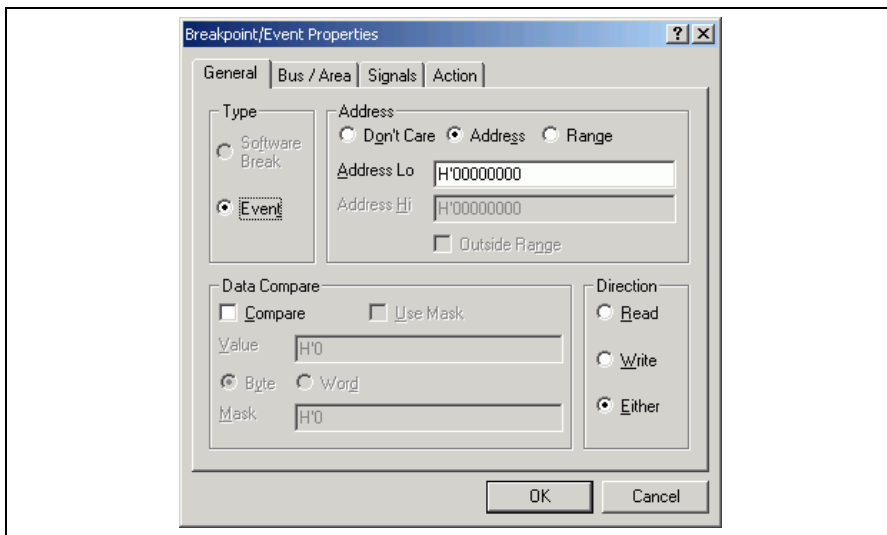

Figure 6.42 [Breakpoint/Event Properties] Dialog Box
- (2) Register the address range for trace acquisition as an event condition. Click the [Add...] button in the [Trace Events] group box on the [General] page to display the [Breakpoint/Event Properties] dialog box (see figure 6.42, [Breakpoint/Event Properties] dialog box).
- (3) Click the [Range] radio button in the [Address] group box on the [General] page of the [Breakpoint/Event Properties] dialog box. Use the [Locals] window to refer to the address on the line where variable `a`, which is defined within the `tutorial` function, is allocated (`H'00FFFEF8` in this example) and enter this address in the [Address Lo] edit box. Then enter an address, which is `H'27` added to that entered in the [Address Lo] edit box (`H'00FFFEFA7` in this example), in the [Address Hi] edit box. This procedure sets the memory range for variable `a` of the `tutorial` function.
- (4) Click the [Write] radio button in the [Direction] group box to set a write cycle for the specified range. This completes the setting of a memory range. Click the [OK] button to close the [Breakpoint/Event Properties] dialog box.